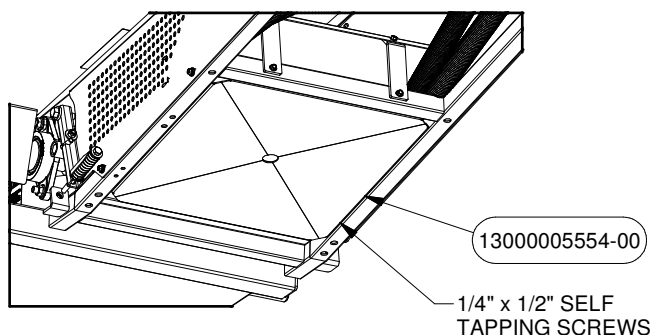

FIGURE 12
23. Attach the Bottom Guard PN# 5554 to the Intake using Self Tapping Screws that can be found in Bolt Bag PN# 5830 (See Figure 12).